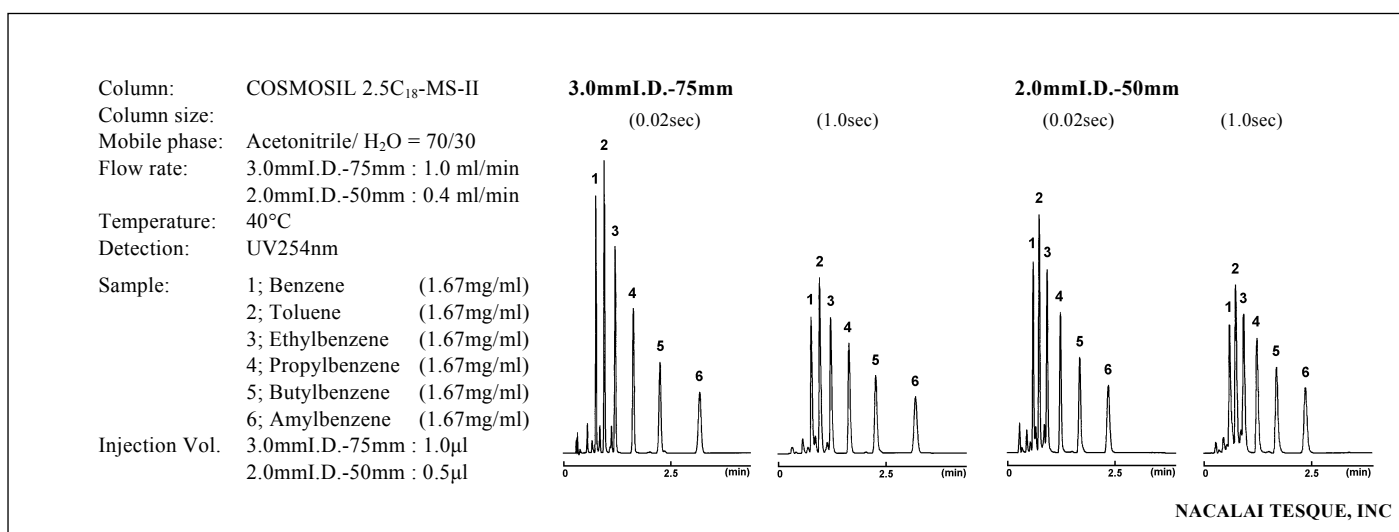

Figure 1. Effect of response time of detector
2. When using normal HPLC equipments, set the response time of detector under 0.1 second. [Fig.1]